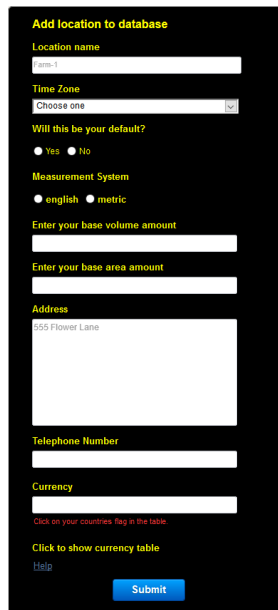

Fig. 2
1. The first step after officially joining Pest Logbook is to add a location. Adding a location will unlock other features. (See fig. 2)